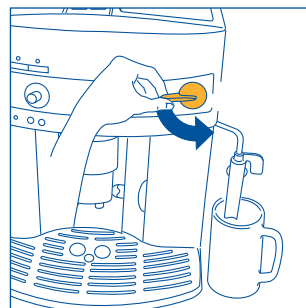

Fig.5
3. **IMMEDIATELY AFTER, WITHIN A MAXIMUM OF 30 SECONDS**, turn the steam knob counter-clockwise until it stops (Fig.5) (it is normal for the machine to make some noise).
- Release a little steam for a few seconds by turning the steam knob counter-clockwise until it stops (Fig. 5). With this operation, the steam spout discharges any milk that may be left inside. **IMPORTANT:** For hygiene reasons, this operation should always be performed, so as to prevent previously used milk from remaining inside the cappuccino frother.